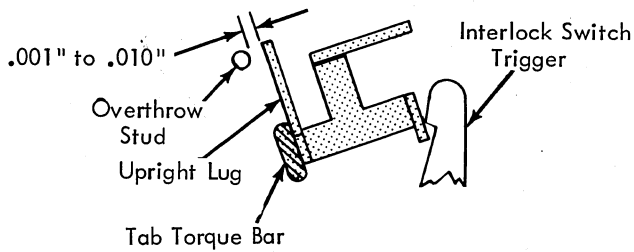

FIGURE 170. Torque Bar Overthrow Stud (Late)
NOTE: The carrier should be tapped lightly to the left before checking this adjustment. It should also be checked with the carrier in the center of its travel. Be sure that the overthrow stud (Fig. 170) does not interfere with this adjustment.
12. Torque Bar Overthrow Stud (Fig. 170) - With the tab cam on its high point, form the upright lug on the LH end of the torque bar for a clearance of $.001'' - .010''$ between this lug and the overthrow stud.